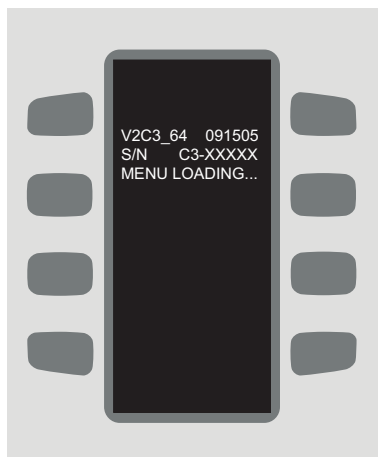
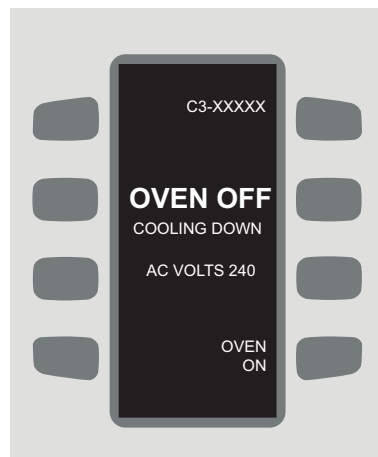

FIGURE 7: Start Up Screen
FIGURE 8: Off Screen
When power is initially applied, the oven **START UP** screen will display the firmware version and the oven's serial number for 5 seconds (Figure 7). The **OFF** screen will then display "Oven Off" in large text (Figure 8).
1. If the display is dim, press any key to re-illuminate the display. The **OFF** screen will be displayed (Figure 8).